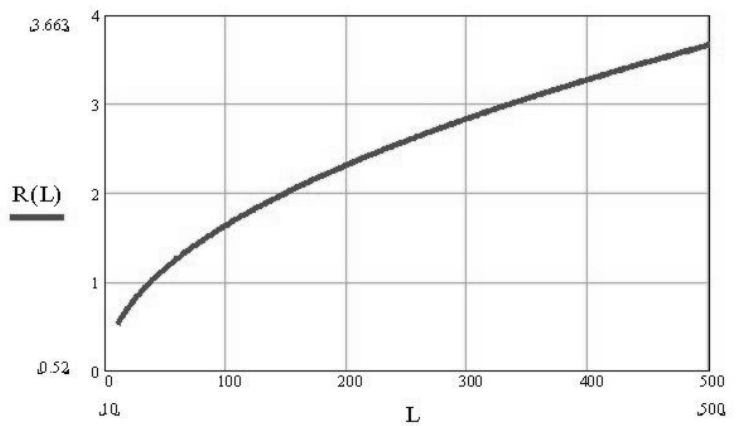
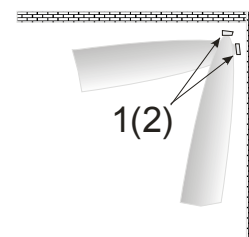

Fig. 4.2
Fig. 4.8
4.4 Width of the sensitivity are depends on the distance between the TU and RU and is determined by an approximate diagram shown in Fig. 4.2.
Note: Width of the DA (moment of operation) depends on the thresholds set and can be narrower as compared to that shown in Fig. 4.2.
ing properties it may lead to significant fluctuations of the level of signal being received that is to s significant reduction of the signal/noise ratio. Therefore, when designing and installing the width of the sensitivity area must be taken into account (see diagram in Fig. 4.2).
4.13 When installing detectors along barriers the following must be determined: *are the radio waves emitted by the TU capable of reaching the RU having been reflected from the barrier. If they are, rotate the DA axes as shown in Fig. 4.8. Angle of rotation to be calculated taking into account the widening of the DA (see diagram in Fig. 4.2) so that the DA does not touch the barrier (even barriers radioparent in dry weather are capable of reflecting radio waves after rain).*